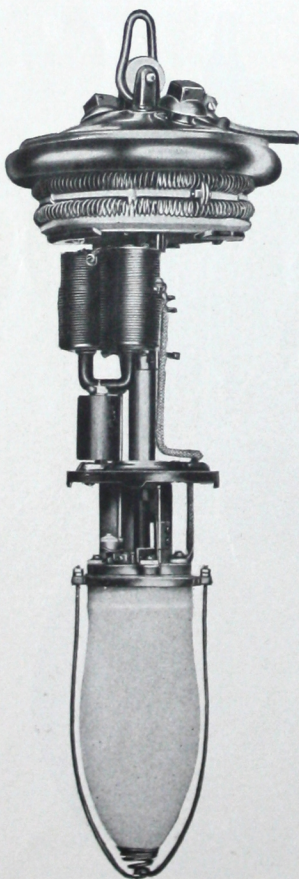
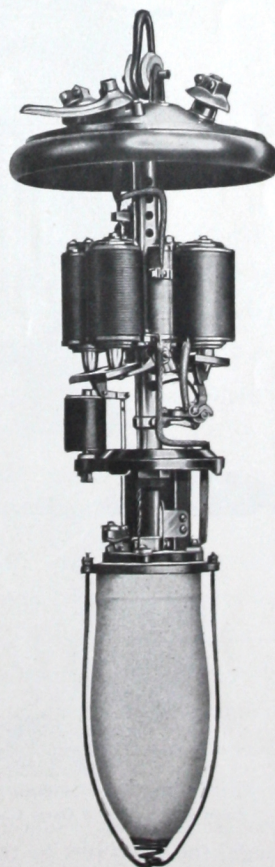

Figure I-2.
Figure I-6
**I**N the Direct Current Multiple Lamp (Figure I-2), two solenoids are employed, the wire being wound on non-metallic bobbins, and the two mounted between clamping plates are secured to supporting brackets in a manner to facilitate ready removal, which can be accomplished in a few seconds. A U-shaped armature of Norway iron attached directly
**Rheostat.** The advantages of the Jandus patented rheostat used in the Multiple Direct Current lamps have become widely known. It employs three identical porcelain sections, (see Figure I-10), fitting tongue and groove fashion, and forming a cylinder around the center tube which can be readily assembled without disturbing the lamp hood. The cylinder has aligning grooves amply ventilated in which the specially coiled resistance wire is laid (see Figure I-2) and connected to the lamp circuit by binding posts conveniently located so that the removal of a coil, or of the whole rheostat, takes but a moment. Sufficient grooves are provided to take care of resistance for 250 volt lamps, while other manufacturers require an extra outside resistance for such lamps.
**Reactance Coil.** In Multiple Alternating Lamps a reactance coil is substituted for the rheostat. (Compare Figures I-2 and I-4). The reactance coil occupies the same space as the rheostat and is interchangeable with it. Neither the lamp hood nor any part of the lamp is disturbed in making the substitution. The reactance coil consists of a laminated non-ageing iron core carrying a series of independent form-wound coils of wire connected on the outside of the core. The connections are utilized in making the necessary adjustments to adapt the lamp to the voltage and frequency of the circuit on which it is to be operated. Should a coil be damaged, it may be quickly replaced by another, and does not involve the rewinding of the whole apparatus as is the case with the types of reactance coils in common use.
**T**HE mechanism for this lamp, (shown in Figure I-6) consists of two series and two shunt electro magnets with conical poles and per-
**Cut Out.** The cut out shown in Figure I-6 is clamped to the stem of the lamp. It is positive and unfailing in its action, presenting four rubbing contacts of coin silver. Old Central Station experts say it is the best arc lamp cut out now in use.
THE Multiple-Series Lamps are used two in series on light or power circuits of 220 to 250 volts, and five in series on circuits of 500 to 550 volts. These lamps are identical in construction with the Constant Current Series Lamps shown in Figure I-6 with the exception of the cut out. They carry also a rheostat (Figure I-10) like that shown in the lamp of Figure I-2 and described in detail on page 7.